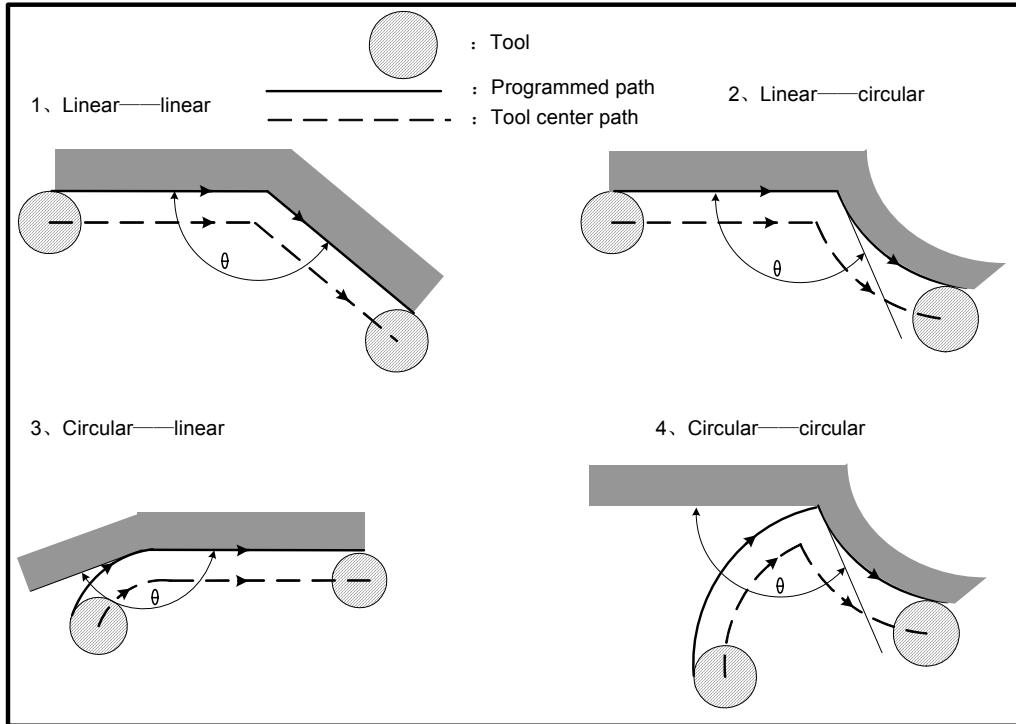

Fig.3-39 4 types of inner corners
2. When G62 is specified, and the tool radius compensation applied forms an inner corner, the feedrate is automatically adjusted at both ends of the corner. There are 4 types of inner corners (Fig.3-39). In figure: $2^{\circ} \leq \theta \leq \theta_p \leq 178^{\circ}$. θ_p is set by parameter P144.